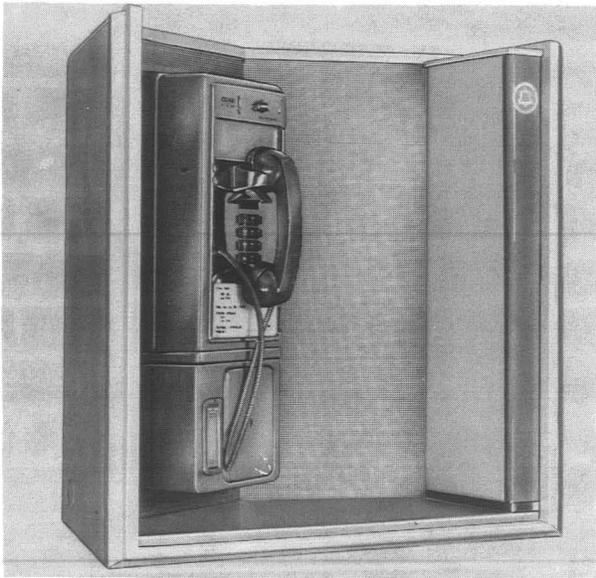

Fig. 1—KS-21571 Public Telephone Shelf With 1-Type Set and Fluorescent Lamp
1.01 This section provides information for the identification, installation, and maintenance of the KS-21571 public telephone shelf (Fig. 1 through 3) which is a wedge-shaped wall mount intended for indoor use.